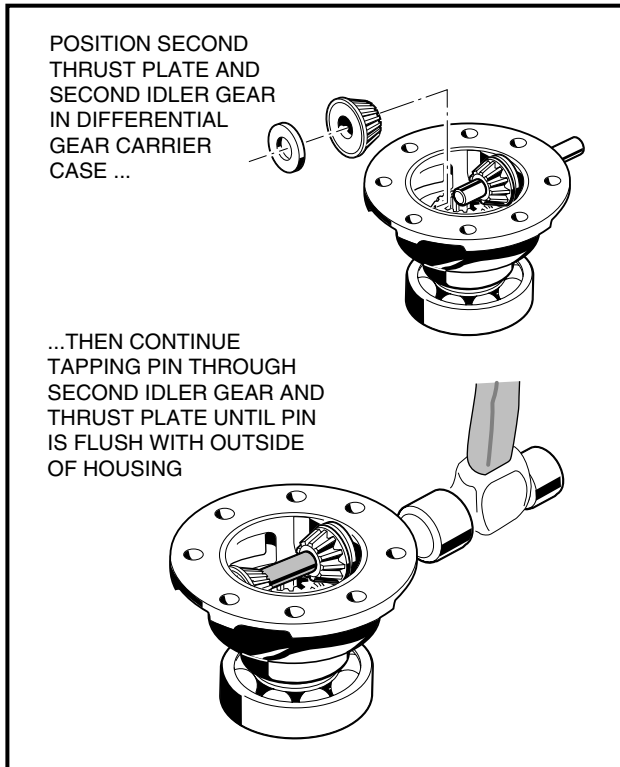

FIGURE 10-64
4. Position the other thrust plate (85) and idler gear (89) (**Figure 10-6, Page 39**) in the carrier case as shown (**Figure 10-64**), and then continue to drive the pin through them and the wall of the carrier case until the ends of the pin are flush with the sides of the carrier case (**Figure 10-64**).